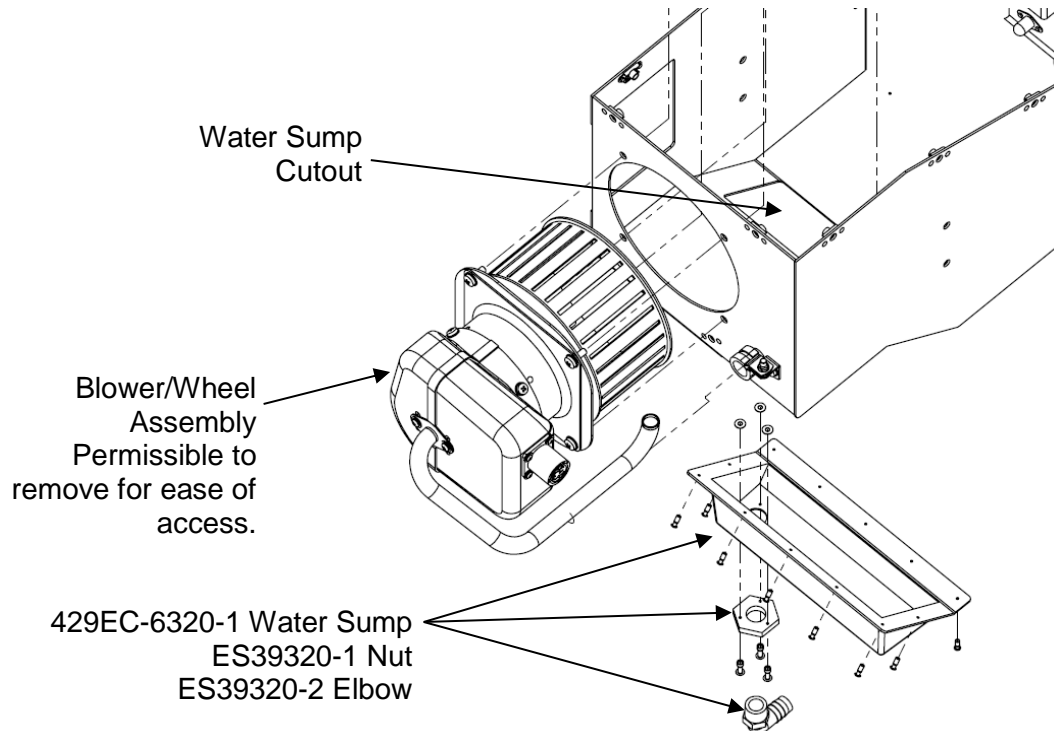

Figure 9: 429EC-6320-1 Water Sump with ES39320-2 Drain Elbow
It is permissible to remove blower motor/wheel assembly for ease of access (Figure 9).
- 6) Wet install ES39320-2 drain elbow and ES39320-1 nut to 429EC-6320-1 water sump using RTV103 black silicone rubber adhesive sealant. Leave drain elbow loose for evaporator reinstallation. (Figure 18) Match drill $\text{\O} .128$ and fasten with (3X) AD46ABS rivets and (3X) NAS1149FN416P Washers. (Figure 9)